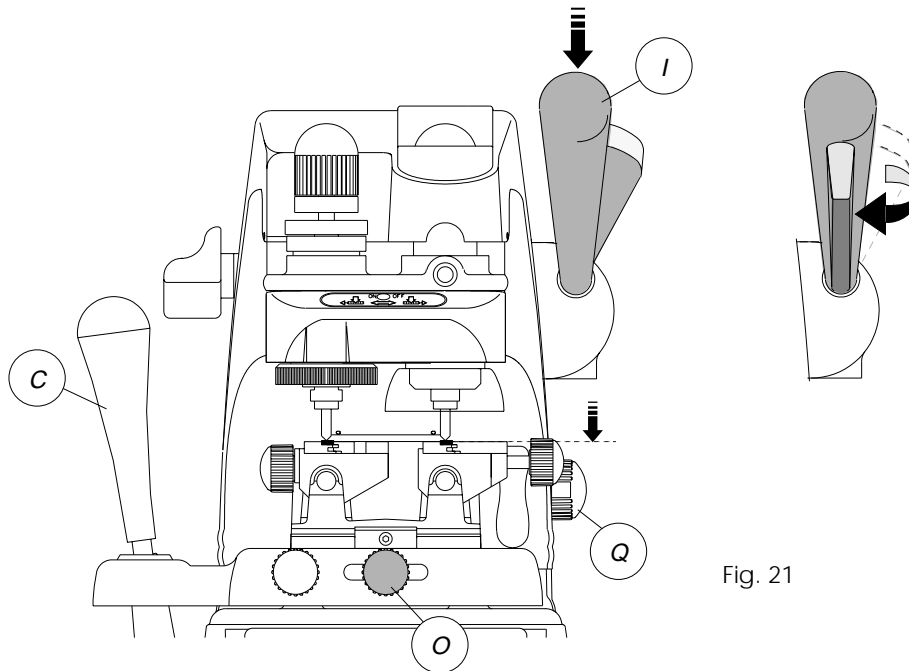

Fig. 21
- secure the spindle at this height by turning the lever (I) clockwise (Fig.21).
- carry out the cuts using only the left-hand lever (C).
- before switching on the commutator (Q), lower the lever (I) towards the keys and register the Laser (sidewinder) key spring system (ch.5.2).
- start cutting by turning the commutator (Q).
- carry out the cuts using only lever (C).
- activate the Laser (sidewinder) key spring system with knob (O) (ch.5.2 - central cutting).
- switch on the commutator (Q), lower the spindle and position on the beginning of the cut (ch.6.4).